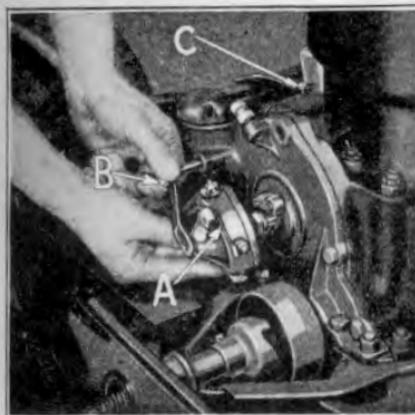

Fig. 95
- Position commutator case (See "A" Fig. 95) into recess in cylinder front cover.